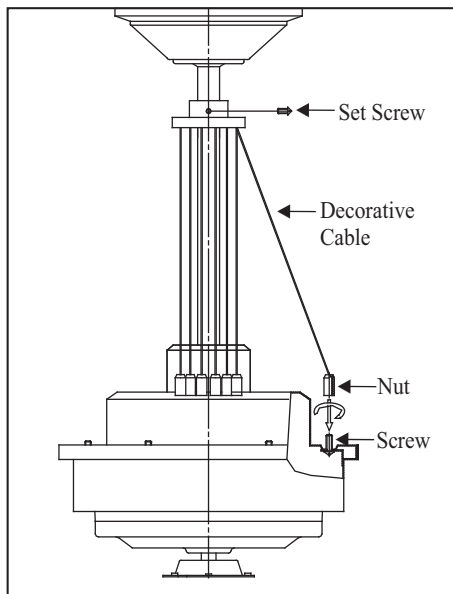

Figure 6
8. Place the nut at the end of the decorative cable wire to the screw on the top of the motor housing. Tighten the nut to the screw. Repeat this procedure for the remaining decorative cable wires. Secure the coupling with setscrew tightly. (Fig. 6)